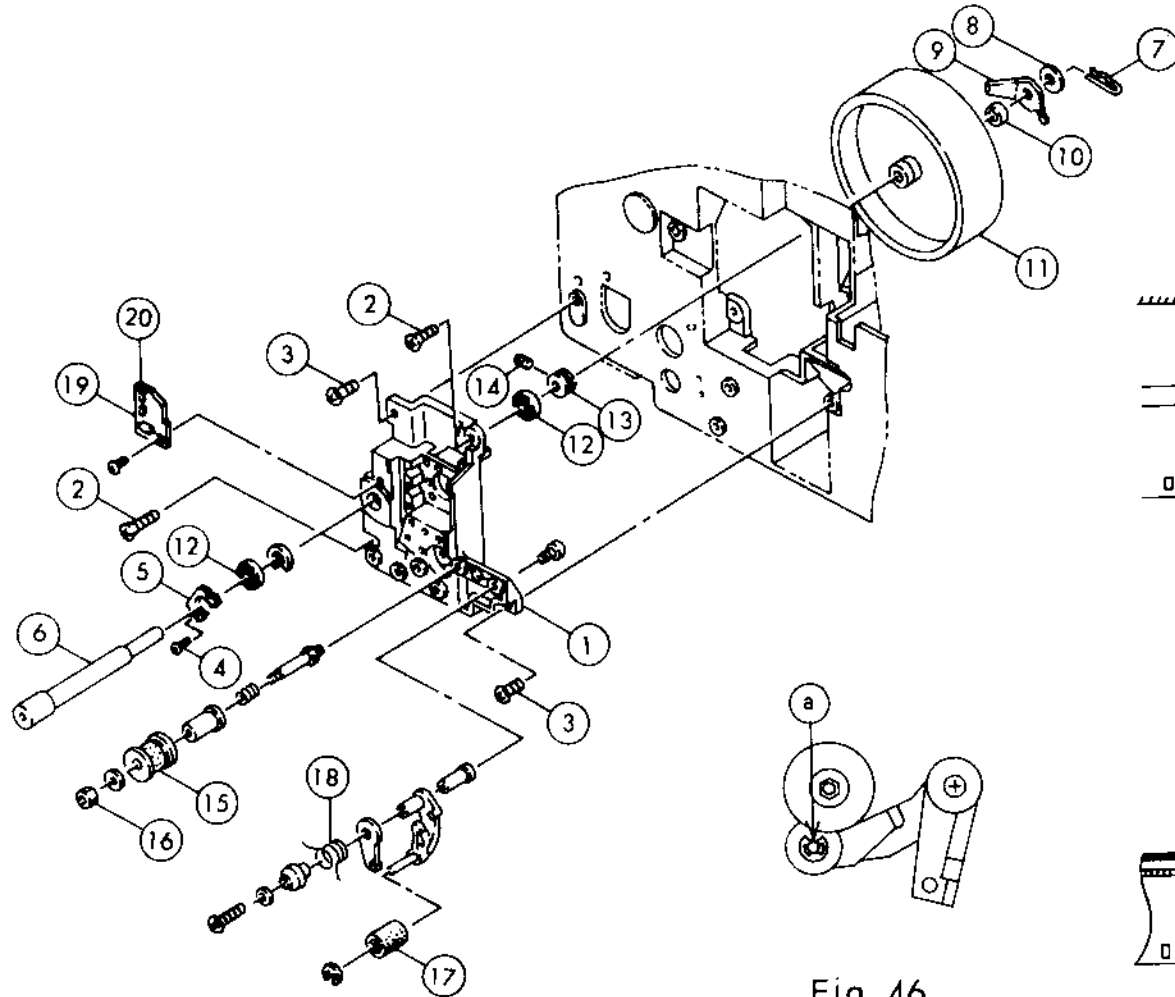

Fig. 45
1. Remove ⑦ and take out ⑧, ⑨, ⑩ and ⑪.
2. Remove ④ x 2 pcs. to take out ⑤, and pull out ⑥.
3. Remove ② x 2 pcs. and ③ x 2 pcs., disconnect the connectors from ⑮ and ⑯, and take out ①.
4. For further disassembly, refer to Fig. 45.